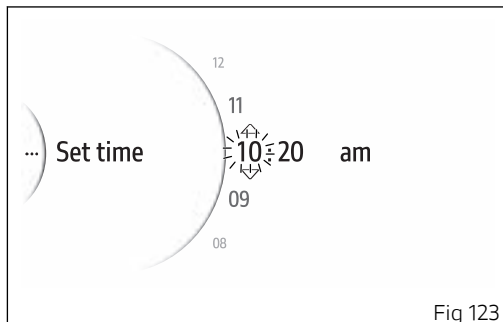

Fig 123
- Use buttons (1) and (2) from the Interactive Menu to select the "Setting menu" item and press ENTER (3).
- Select the "Date and time" item and press ENTER (3).
- Select the "Set time" item and press ENTER (3).
The hour number becomes flashing and is displayed with two arrows placed above and below it; the available values are also displayed (Fig 123). Use buttons (1) and (2) to scroll and select the desired value. Press ENTER (3) to confirm and move on to the following parameter.